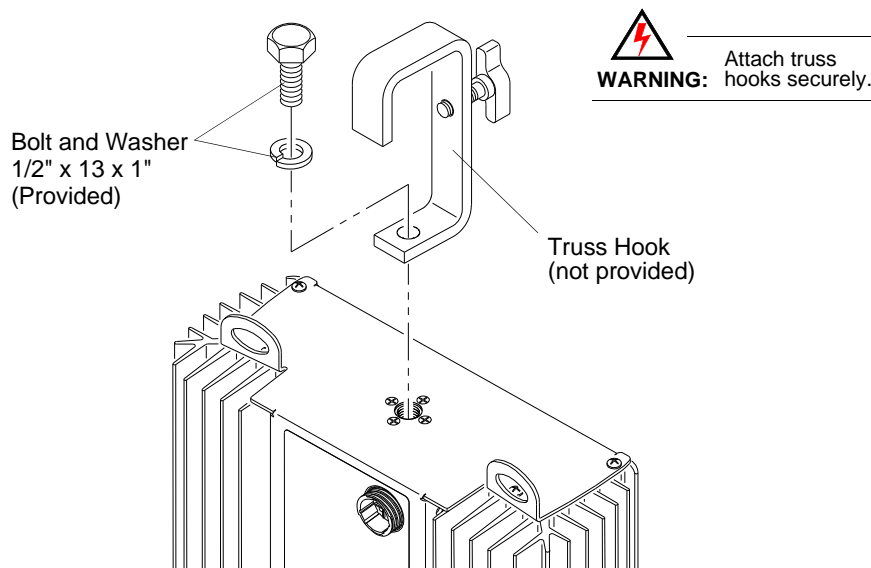

Figure 2-11: Example Ballast Truss Hook Installation
- Step 1. Attach truss hook as shown below (Figure 2-11).